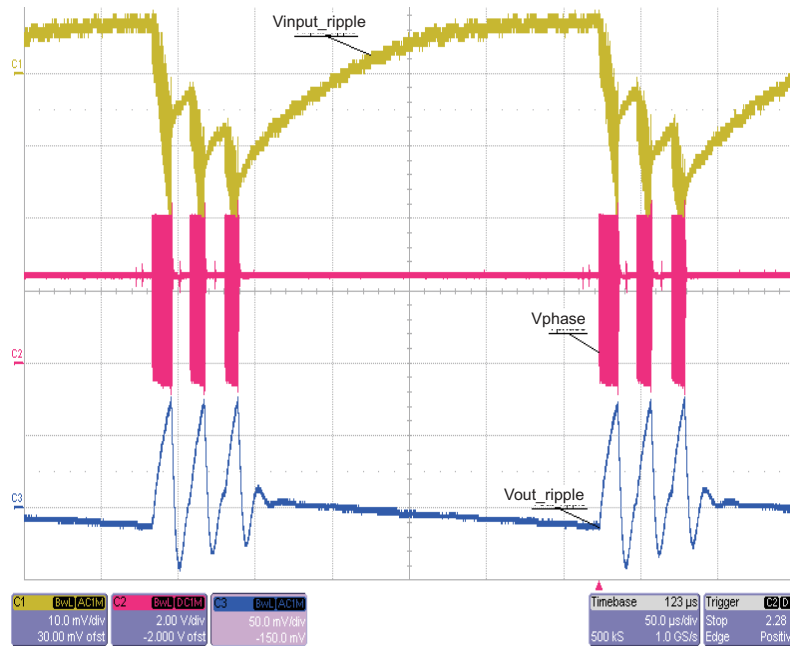

Figure 4. SNOOZE Mode. $V_{in} = 4\text{ V}$, $V_{out} = 2.5\text{ V}$, $I_{out} = 25\text{ mA}$. CH1 = Input Ripple; CH2 = Phase; CH3 = Output Ripple
6. Set the load to 100 Ω (25 mA), set CH3 to 50 mV/div, and move shunt from JMP1-PWM/PFM to JP1-SNOOZE. Observe that the IC is in low-power mode where the IC shuts down for short periods and then wakes up to restore regulation. Note how the ripple is much larger at the expense of better efficiency at light loads (see Figure 4).